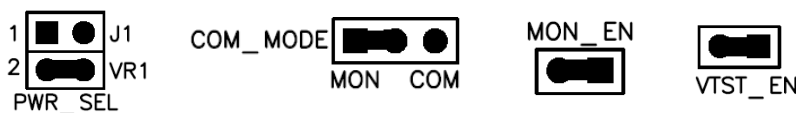

Figure 2. MON08 Debug Setting for Serial Connection
- Make sure the jumpers are in the debug position. Refer to figure 2.